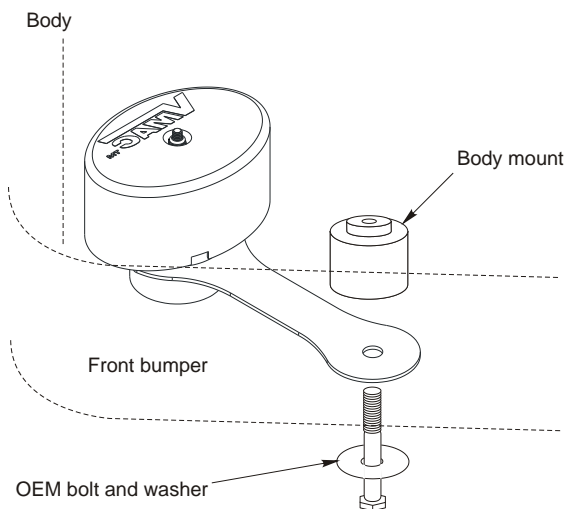

Figure 3.12
- ☐ Remove the cab mount bolt behind the passenger side of the front bumper. Insert the OEM bolt through the hole in the filter assembly mount bracket and install the filter assembly with the hose connection fitting pointing down (Figure 3.12). Adjust the position of the filter assembly so that it does not touch any body parts and tighten the bolt.